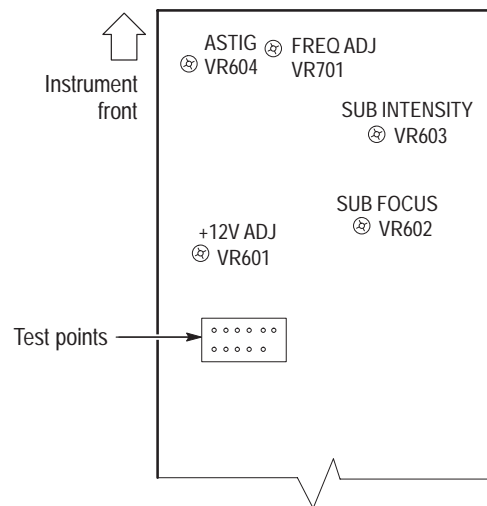

Figure 11: Power and High Voltage board (viewed from the instrument bottom)
To locate the adjustment for the following procedure, refer to Figure 11. The Power and High Voltage board occupies the bottom-left side of the instrument below the CRT.
5. Adjust VR701 on the Power and High Voltage board until one cycle spans five divisions. See Figure 11 for the adjustment location.